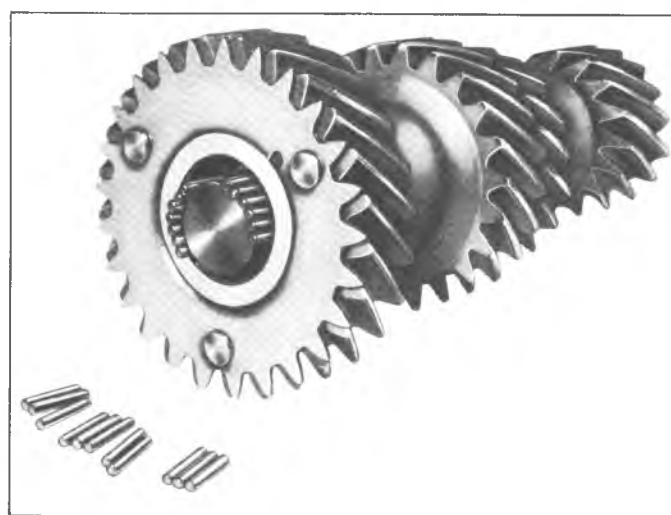

Fig. 15B-Loading Countergear Bearings Using J-22246
2. Using heavy grease to retain the rollers, install a spacer, 28 rollers, a spacer, 28 more rollers, then another spacer. Install in the other end of the counter gear, a spacer, 28 rollers, a spacer, 28 more rollers, and another spacer (fig. 15B).